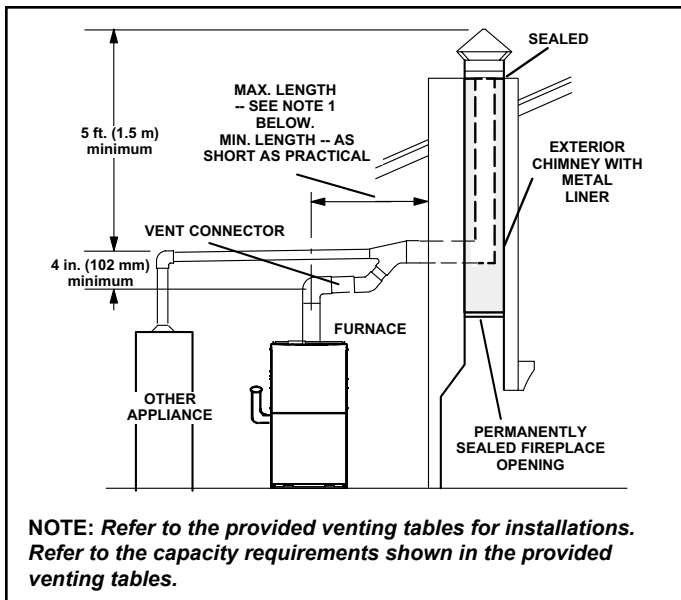
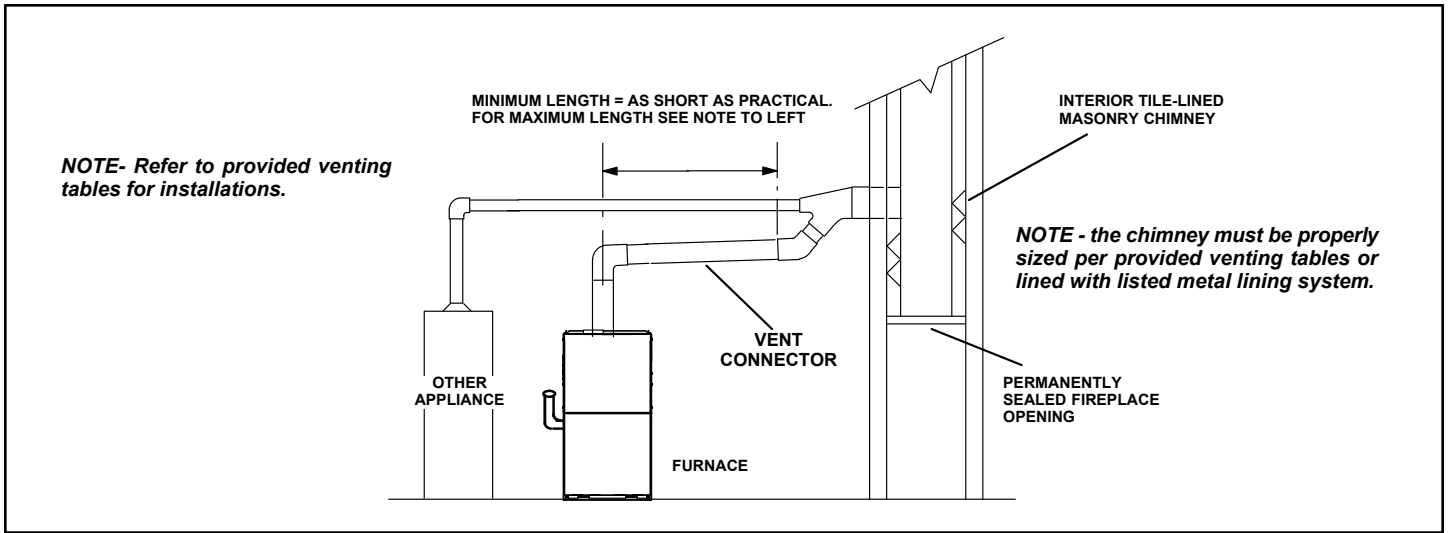

Figure 17. Common Venting Using Metal-Lined Masonry Chimney
Figure 19. Common Venting Using Tile-Lined Interior Masonry Chimney and Combined Vent Connector
- Masonry chimneys used to vent Category I central furnaces must be either tile lined or lined with a listed metal lining system or dedicated gas vent. Unlined masonry chimneys are prohibited. See Figure 17 and Figure 19 for common venting.